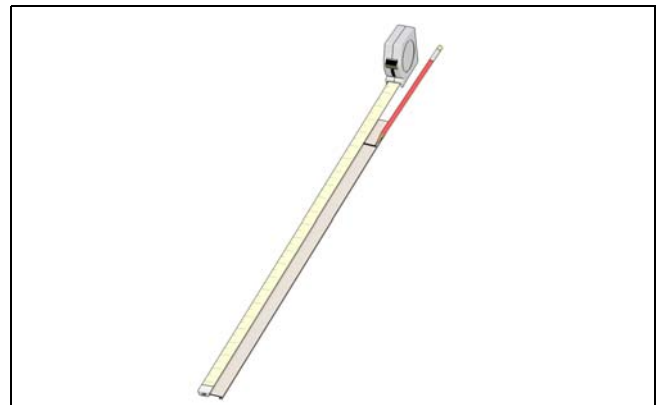

Figure 20
8. Measure the width of mull from interior edge of accessory kerf from jamb to jamb. Transfer measurement to the aluminum mull cap and cut with a power miter saw or hacksaw. See Figure 20.